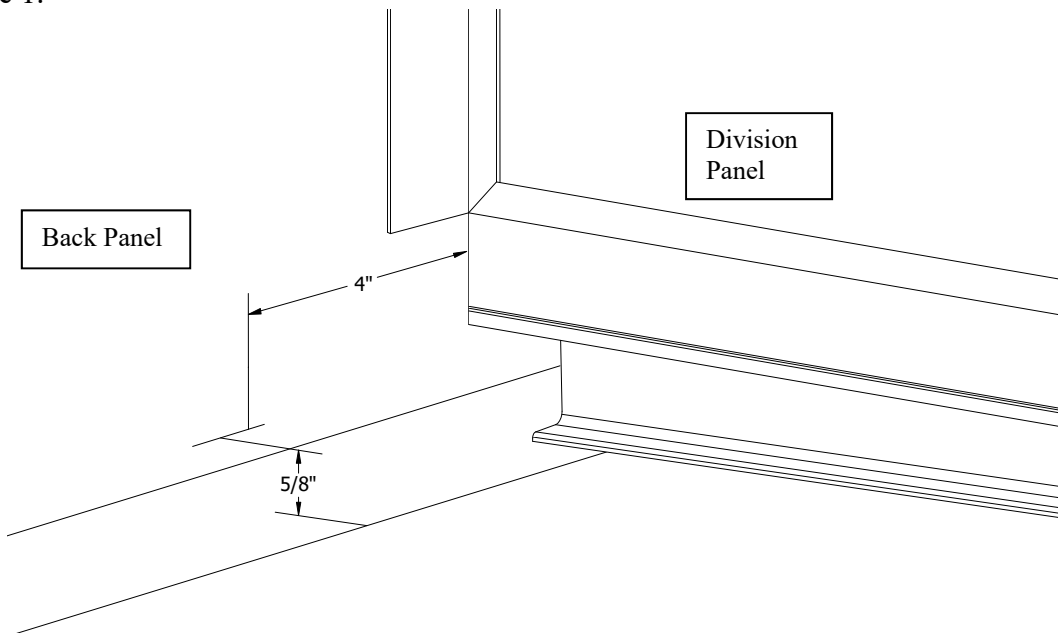

Figure 1.
1. Beginning from point on the back panel that is level with the front edge of the floor trench drain, measure up  $5/8''$  and make a mark on the wall. From the side of the division panel measure in approx.  $4''$  and make another mark. Repeat for the opposite side of the run. See Figure 1.